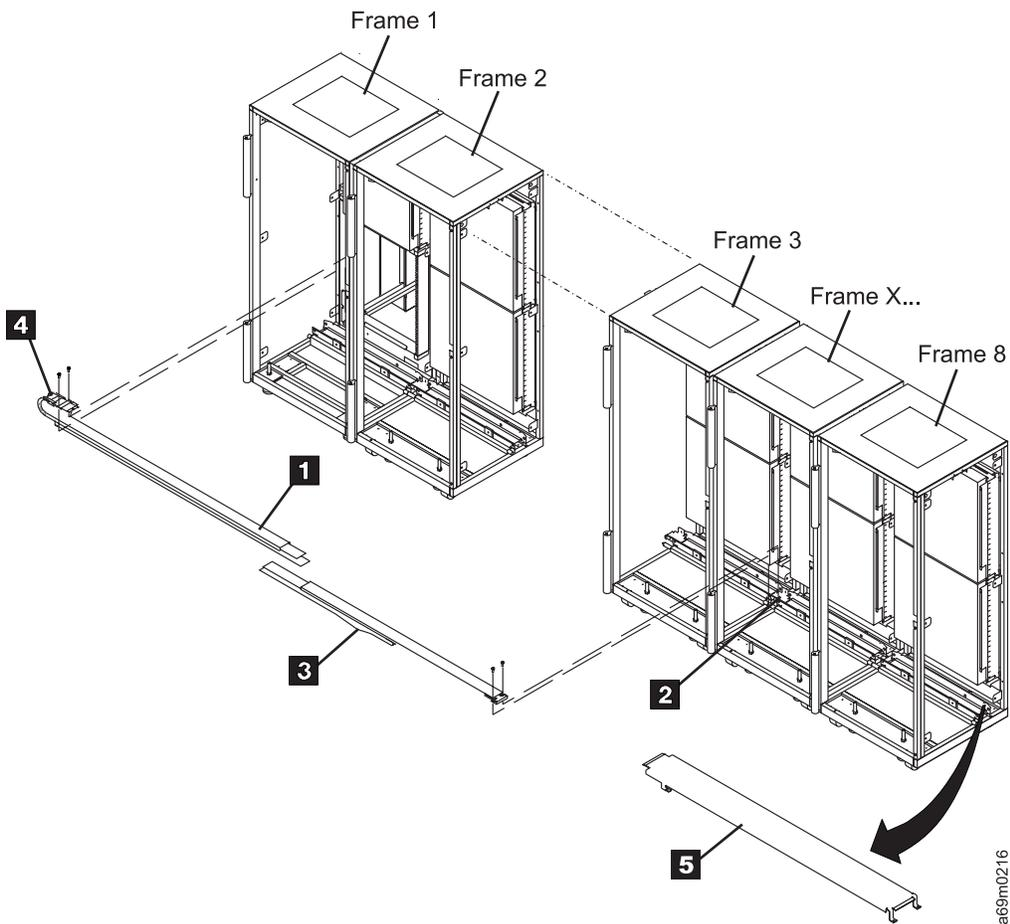

Figure 38. X-Cable Frame Attachment
- ___ 55. Refer to Figure 38 on page 97. Lay the X-axis cable **4** in the cable trough **2**. Position the end with the plastic track (plastic track up **1**) at the left end of frame 1, with the connector for the accessor AXY card protruding out the left end approximately 300 mm (12 in.).